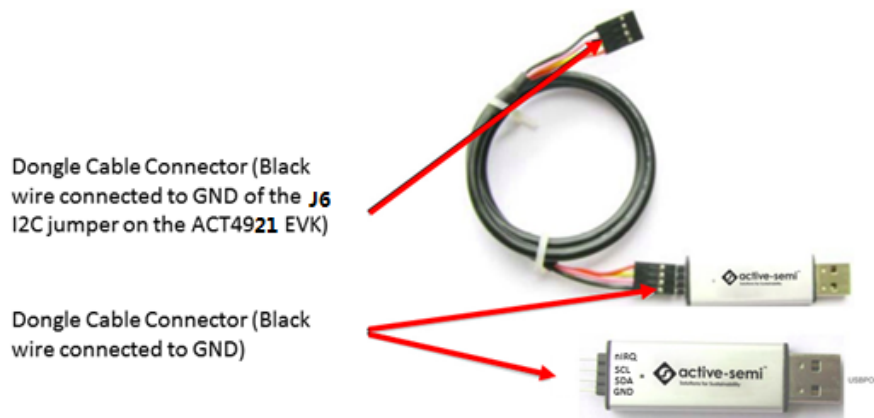

Figure 3 – USB-TO-I2C Dongle Connection
3. Connect the USB-TO-I2C dongle to the EVK J6 connector. Refer to Figure 3 to ensure the correct polarity of the connection. As a guide, use the “Active-Semi” logo on the top of the dongle so the black wire is connected toward the lower left corner of the Dongle.